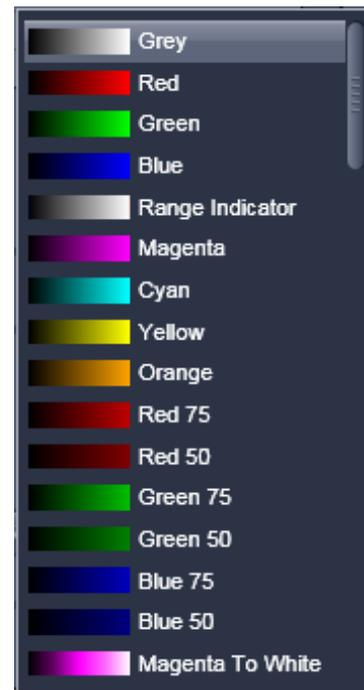

Fig. 5-23 Drop down menu for selection of the channel color
- To assign a specific color to the image of a channel click onto the color icon and select a color from the drop down menu (Fig. 5-23).